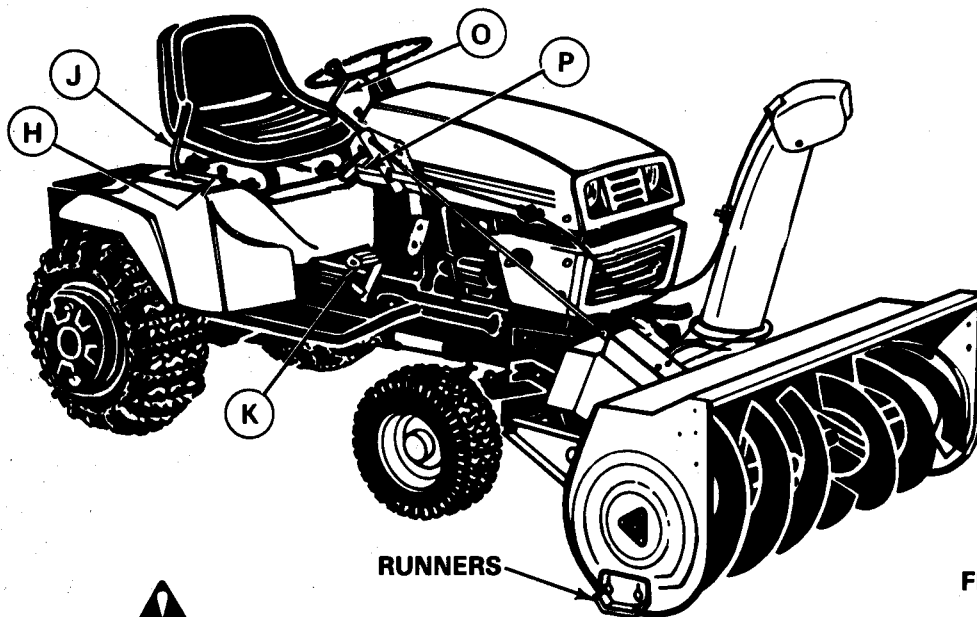

FIGURE 2
O CHUTE CONTROL CRANK — FIGURE 2
Controls the direction of snow discharge. Push in on the crank to unlock. Crank is turned by the operator's right hand from the seated position. See Figure 2.
P REMOTE DEFLECTOR CONTROL — FIGURE 2
With the remote deflector control, the operator can control the up and down direction of the discharge from the seated position. Control handle is located just below the chute crank on the crank support bracket. See Figure 2. Turn the "T" handle horizontal to unlock, push handle to lower deflector; pull handle to raise deflector, turn handle ¼ turn to lock in position.
1. Adjust the deflector angle using the "T" handle, (P, Figure 2) at the operators right. Raising the deflector will cause snow to be thrown the greatest distance. Lowering the angle will shorten the distance and throw the snow down alongside the tractor. Turn the "T" handle to adjust the deflector; PUSH to lower the deflector; PULL to raise the deflector. A quarter turn of the handle will lock the deflector in position.
2. Push in on the chute crank (O, Figure 2) to unlock and turn the chute crank, so that the snow will be thrown in the desired direction.